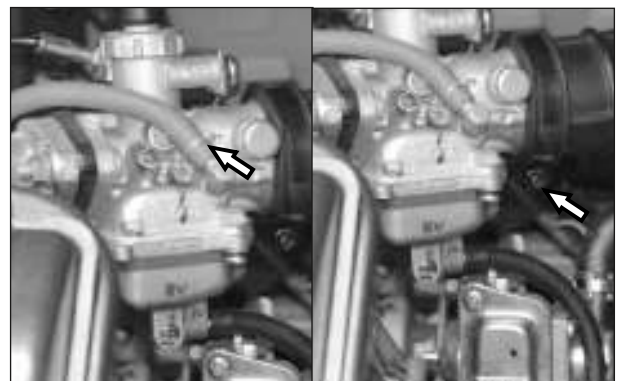

Fig. 4.15
- Disconnect the hose fuel cock out let from carburetor. (Fig. 4.15)
- Loosen and remove 1 no. Hose clip dia 43 mm from carburetor mounting. (Fig. 4.15)